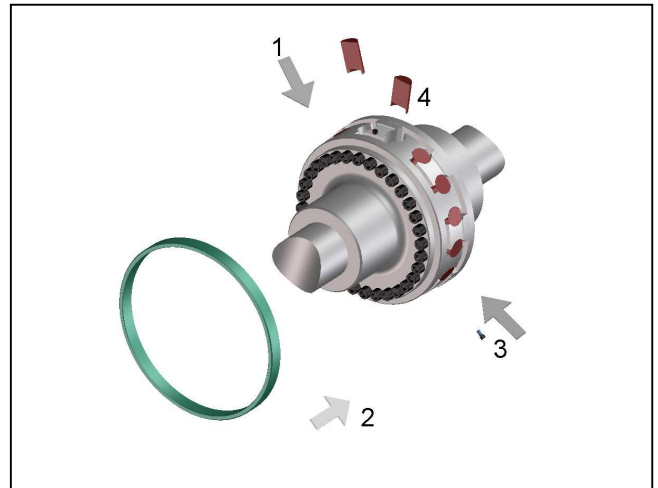

Fig. 6
- Push together the shaft ends with the mounted coupling halves while observing the mounting dimension h acc. to table 7 (Fig. 6).
- Mount the buffers with the hollow pointing inwards (Fig. 6, Pos. 4).
- Push on the retaining ring until it contacts the hub face, so that the ring is seated centrally above the elastic buffers. (Fig. 6, Pos. 4).
- Tighten the locking screws at the retaining ring (Fig. 6, Pos. 3) to the tightening torque M_A specified in table 4.